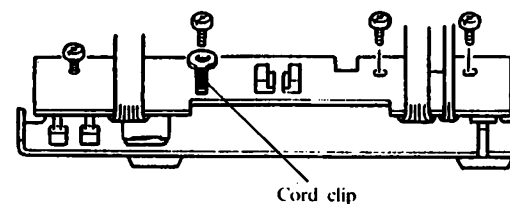

Fig. 63
- (3) Fix them with the four screws (3×8), at the same time, put the cord clip. (Refer to Fig. 63)